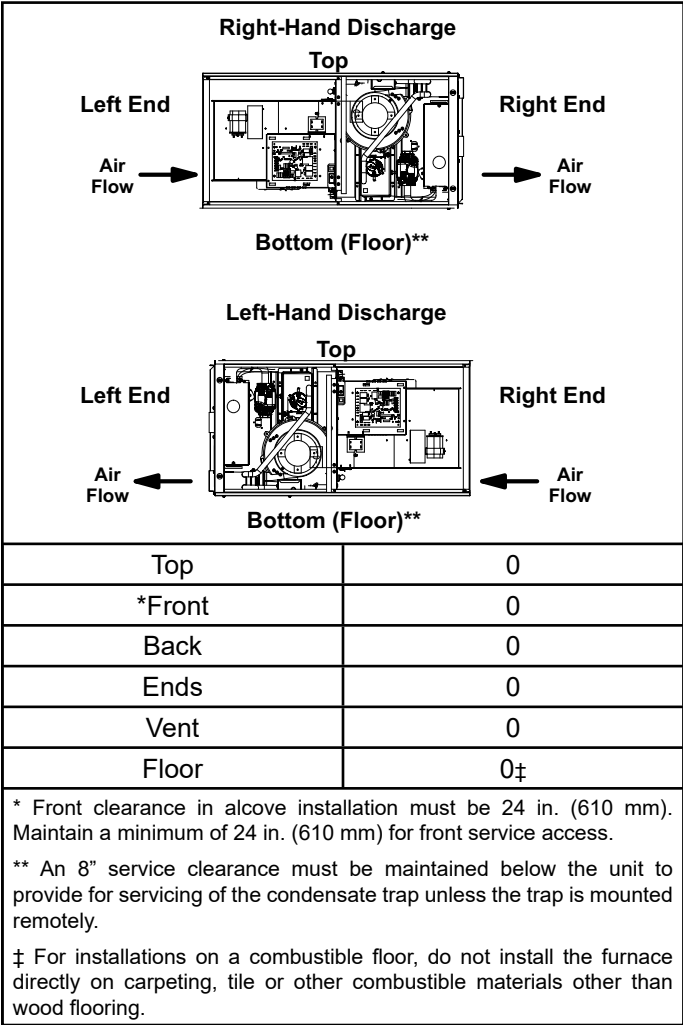

Figure 17. Horizontal Application Installation Clearances
Refer to Figure 17 for clearances in horizontal applications.
1. Select location for unit, keeping in mind service and other necessary clearances. See Figure 17.